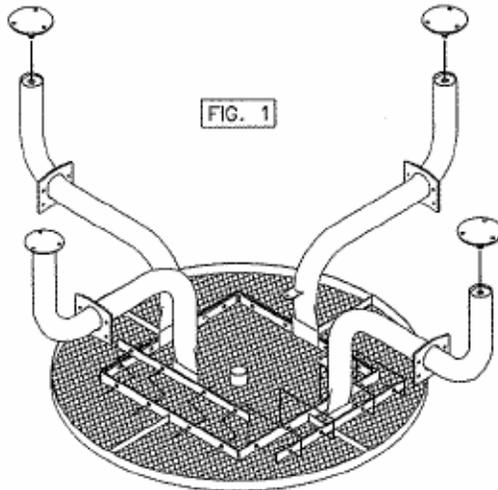

FIG. 1
STEP 1: Invert top (A-) and secure spider legs (C3) to the inside of the top's mounting brackets using one (F), one (I) and two (H) per (F), see FIG. 1. Attach screw in attachment (E1) or (E2), see FIG. 1.